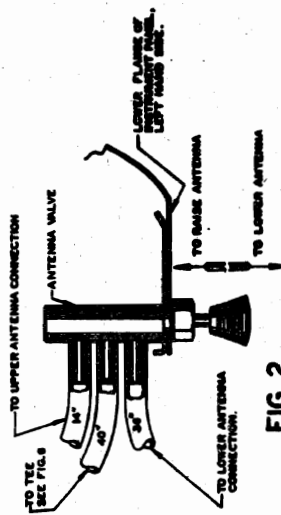

FIG. 2
3. Assemble the hoses supplied with the antenna to the control valve as shown in Fig. 2 and install in the far left hole provided in the left end of the lower flange of the instrument panel.